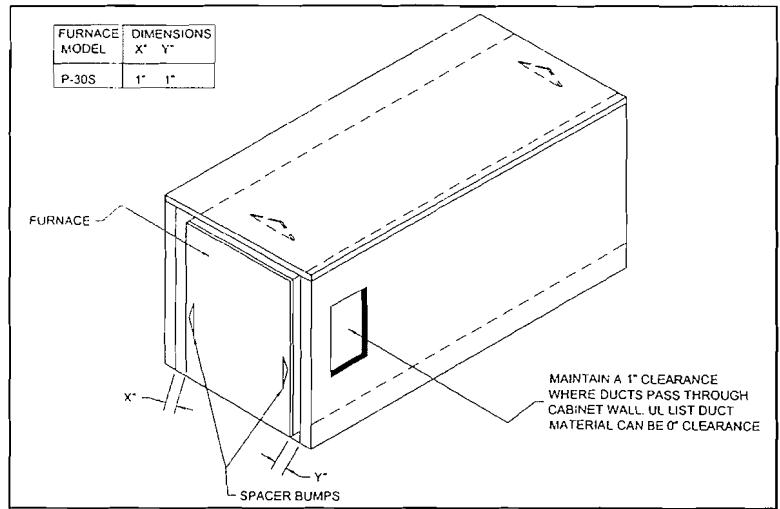

Figure 3
2. Choose a location for installation out of the way of wires, pipes, etc. which might interfere with the installation. Adhere to the minimum clearances from the cabinet to combustible construction as listed in Table 1. Refer to Figure 3 for illustration of furnace clearances.
**COMBUSTIBLE MATERIAL - 1" (See Figure 3)**
5. Maintain a minimum of 1" clearance where ducts pass through any combustible construction; such as, coach cabinetry. (See Figure 3.) **NOTE:** UL listed duct materials can be "0" clearance.